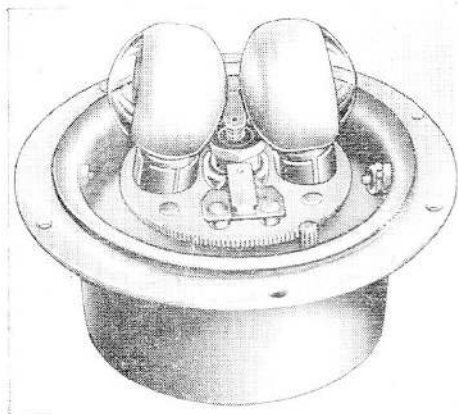

Fig. 3. View with lens removed
4. The lamp gear plate, which is shown in fig. 3, is positioned in the well formed by the mechanism mounting plate. The gear plate incorporates a bearing on which it rotates about the centre spindle and is secured to the centre spindle by a nut, the waist of which acts as the "earth" slip ring. The nut is locked on the centre spindle by a set screw, and a thrust washer is positioned below the gear plate on the spindle. Bearing on the slip ring is the "earth" brush which is housed in a brush holder rivetted to the gear plate, the pigtail of the brush is soldered to the brush holder. Directly opposite the brush holder is the rotating contact, this contact revolves with the gear plate and bears on a stationary contact-stud
5. The filament lamps are 28 volt 40 watt, single-contact, bayonet cap filament lamps the glass envelope of which is mirror finished over approximately 60% of its surface area. This causes the lamp to give a beam of light, with the mirror-finished envelope acting as a reflector. The locating pins of the bayonet cap are positioned at different levels and the lamps will only fit the special lamp holders in one position, the lamp holders are so located that the two filament lamps face 180 deg. apart, as shown in fig. 3.